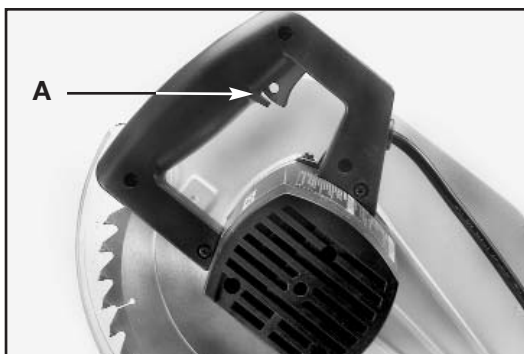

Fig. 10
To start the machine, depress switch trigger (A) Fig. 10. To stop the machine, release the switch trigger. This miter saw is equipped with an automatic electric blade brake. As soon as the switch trigger (A) Fig. 10 is released, the electric brake is activated and stops the blade in seconds.
**⚠ WARNING** A turning saw blade can be hazardous. After completing the cut, release the switch trigger (A) Fig. 10 to activate the blade brake. Keep the cutterhead down until the blade has come to a complete stop.